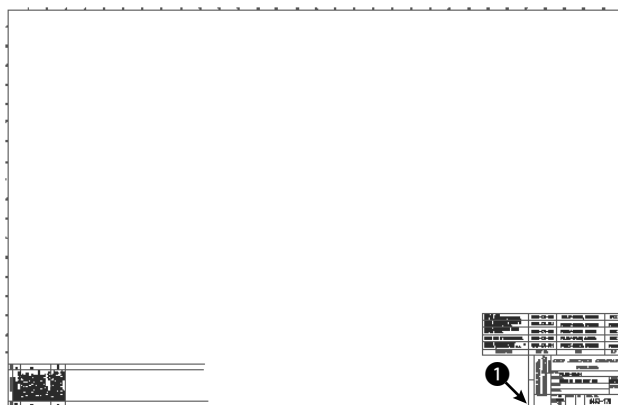

Figure 18-6: A title block can be saved as a file and inserted into any other drawing.
2. Save the file as `ab18-02.dwg` in your `AutoCAD Bible` folder. This is a large title block, as shown in Figure 18-6. OSNAP should be on. Set a running object snap for endpoint.
6. Use `Zoom Window` to zoom in on the text at the bottom-right corner of the title block. At the `Select objects:` prompt, select all the 90° rotated text at ❶ in Figure 18-6. Press `Enter` to end selection.